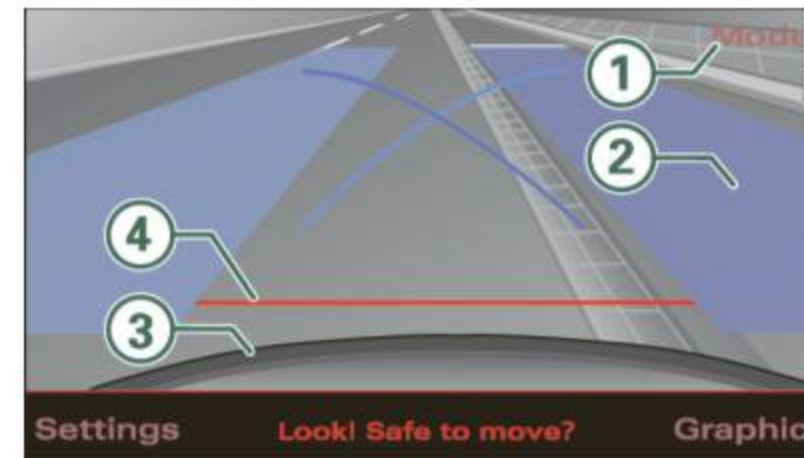

Fig. 152 MMI Display: Blue surface aligned with parking spot
- Press the **Mode** ⇒ *page 142*, fig. 152  control button on the MMI terminal. Parking mode 2 appears.